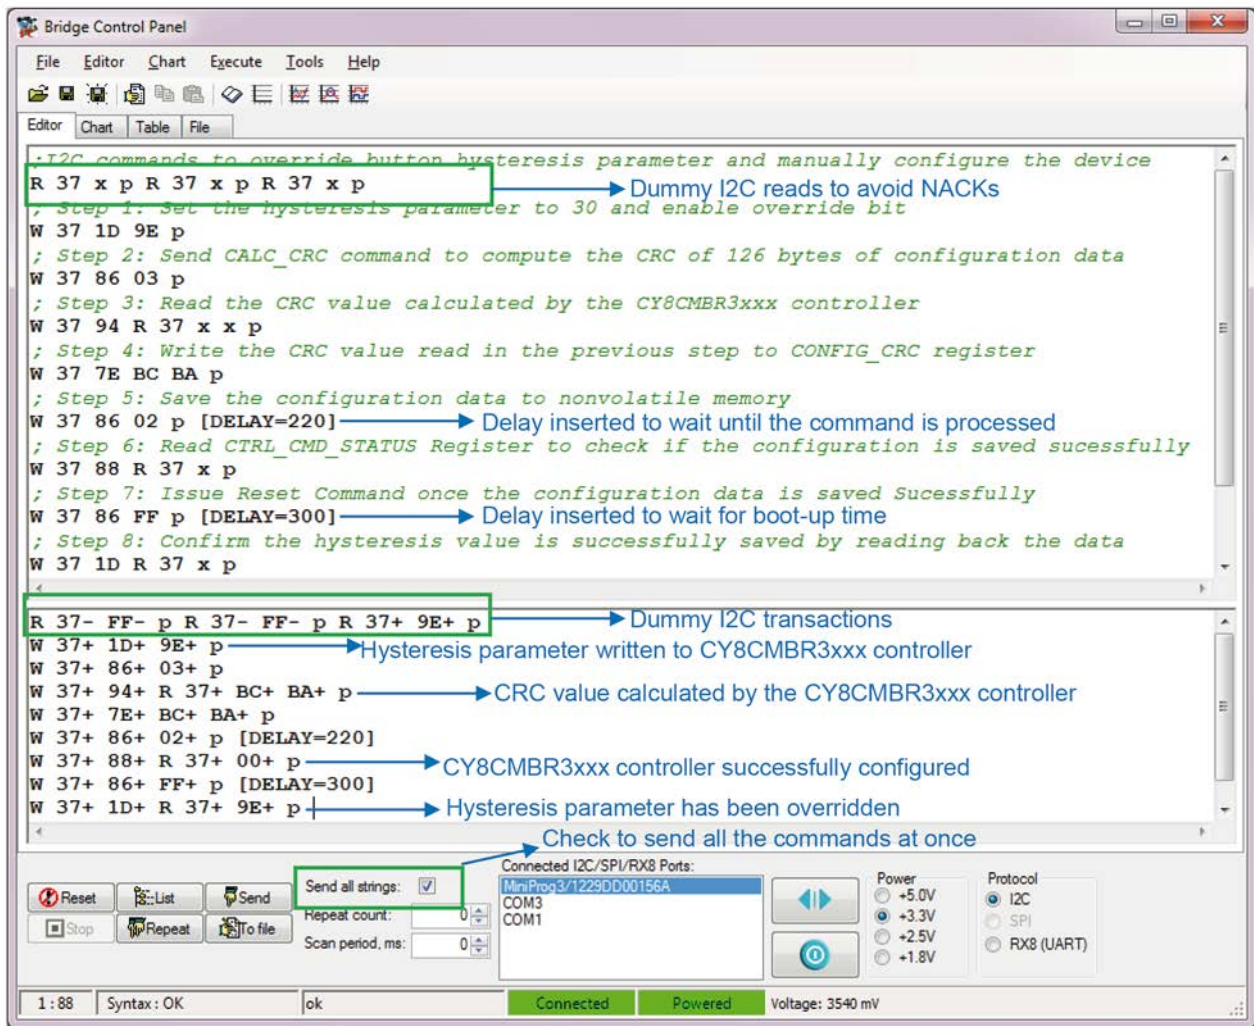

Figure 5-25 Calculating the CRC Using CY8CMBR3xxx Controller
- Use the CY8CMBR3xxx controller to calculate the CRC value: The CY8CMBR3xxx controller calculates the checksum of the configuration data when a CMD\_OP\_CODE value of '3' is written to the CTRL\_CMD (0x86) register, as shown in Figure 5-25. The calculated CRC value will be stored in the CALC\_CRC (0x94) register after 220 ms. The user has to read the CRC value from the CALC\_CRC (0x94) register and manually write it to the CONFIG\_CRC (0x7E) register. This method should be used only during testing and debugging the CY8CMBR3xxx controller. For configuring the CY8CMBR3xxx controller in production, use the CRC API provided with the Host APIs.